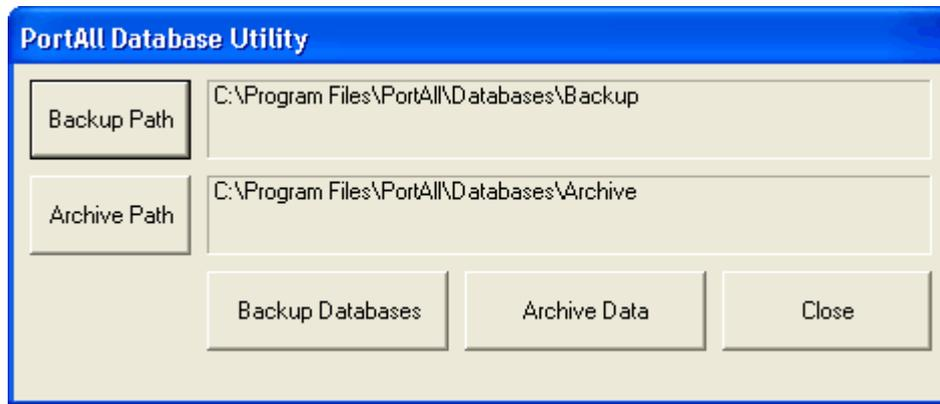

Figure 32 PortAll Database Utility
2. Open the **PortallDatabasebackup.exe** file located in C:\Program Files\PortAll or from the user-specified location. The PortAll Database Utility opens (Figure 32).